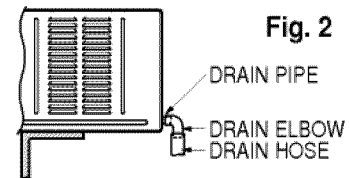

Fig. 2
3. Or connect a pipe elbow of  $\frac{3}{16}$ " inside diameter to the drain pipe, then connect a drain hose of  $\frac{3}{16}$ " inside diameter to the pipe elbow as shown in Fig. 2.